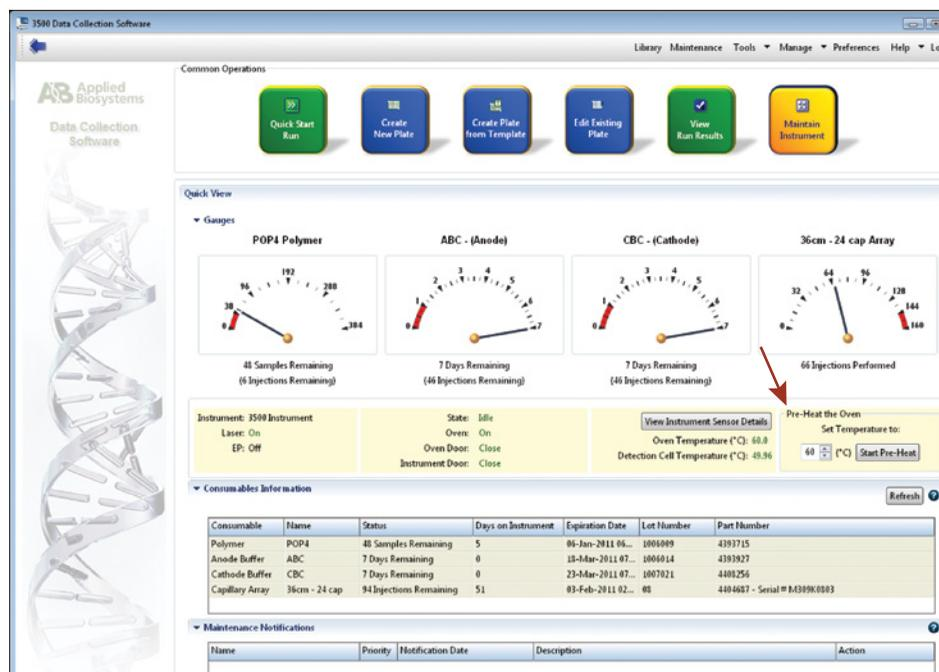

Figure 1. The Dashboard.
1. Open the 3500 Data Collection Software. The Dashboard screen will launch (Figure 1). To ensure that you are viewing the most up-to-date information, press the **Refresh** button. Ensure that the Consumables Information and Maintenance Notifications are acceptable.